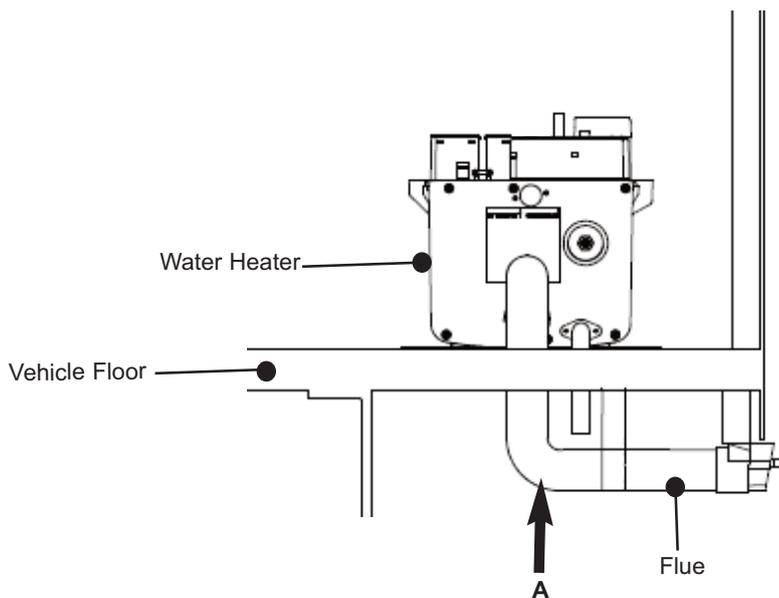

Fig. 25 Flue Direction
- iv. Push the inlet flue into the rear of the flue terminal (fitted to the vehicle floor). The flue **must be** pushed fully home. Please see Fig. 25. The flue **must be** visible in the flue terminal.
Please note: The flue duct from the Water Heater to the terminal **must** have a maximum of one rise. As shown by point A in Fig. 25. This allows condensation to drain away from the Water Heater.